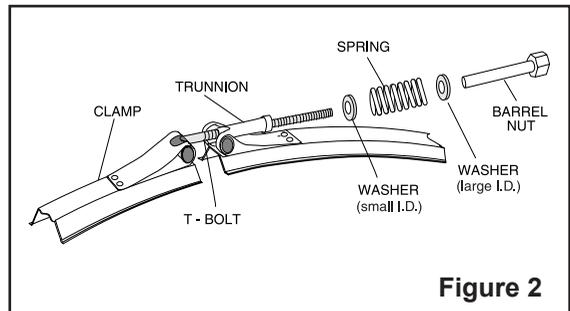

Figure 2
3. Holding the ends of the filter clamp apart, position the center segment of the filter clamp over both upper and lower tank flanges. Bring the ends of the filter clamp together and insert the T-Bolt into the trunnion; see Figure 2.
4. Using Figure 2 as a guide, place washer (large I.D.) and tension-indicating spring on the barrel nut. Place the second washer (small I.D.) on T-Bolt. Hand-tighten nut. Recheck filter clamp for proper seating on tank flanges.